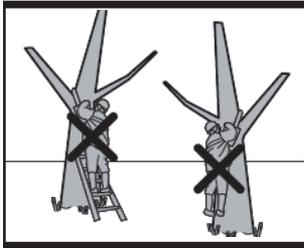

Fig. 21
- Do not operate the chain saw with arms fully extended or attempt to saw areas which are difficult to reach, or on a ladder. Never use the chain saw above shoulder height. (See Fig.21)